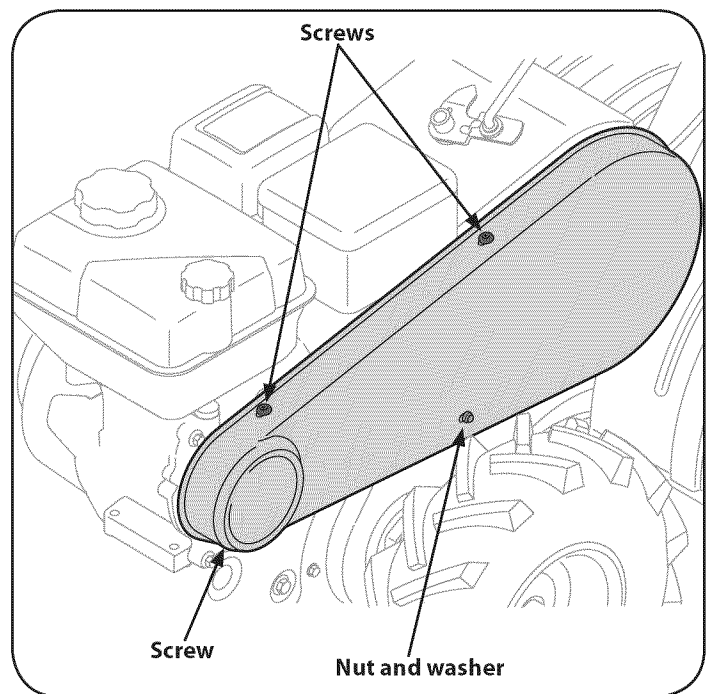

Figure 22
1. Remove the belt cover from the left side of the tiller by removing the two screws from the top of the belt cover. See Figure 22.
2. Remove the hex cap nut and flat washer from the front side of the belt cover. Remove the hex head screw at the back of the cover. See Figure 22.